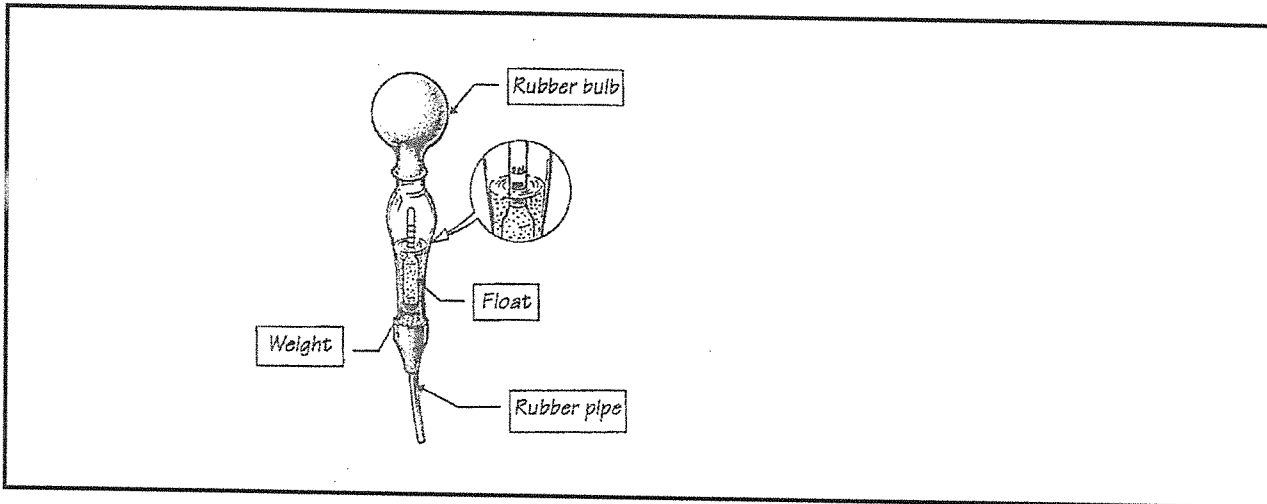

FIGURE 1
2.4 FIGURE 1 (hydrometer structure)